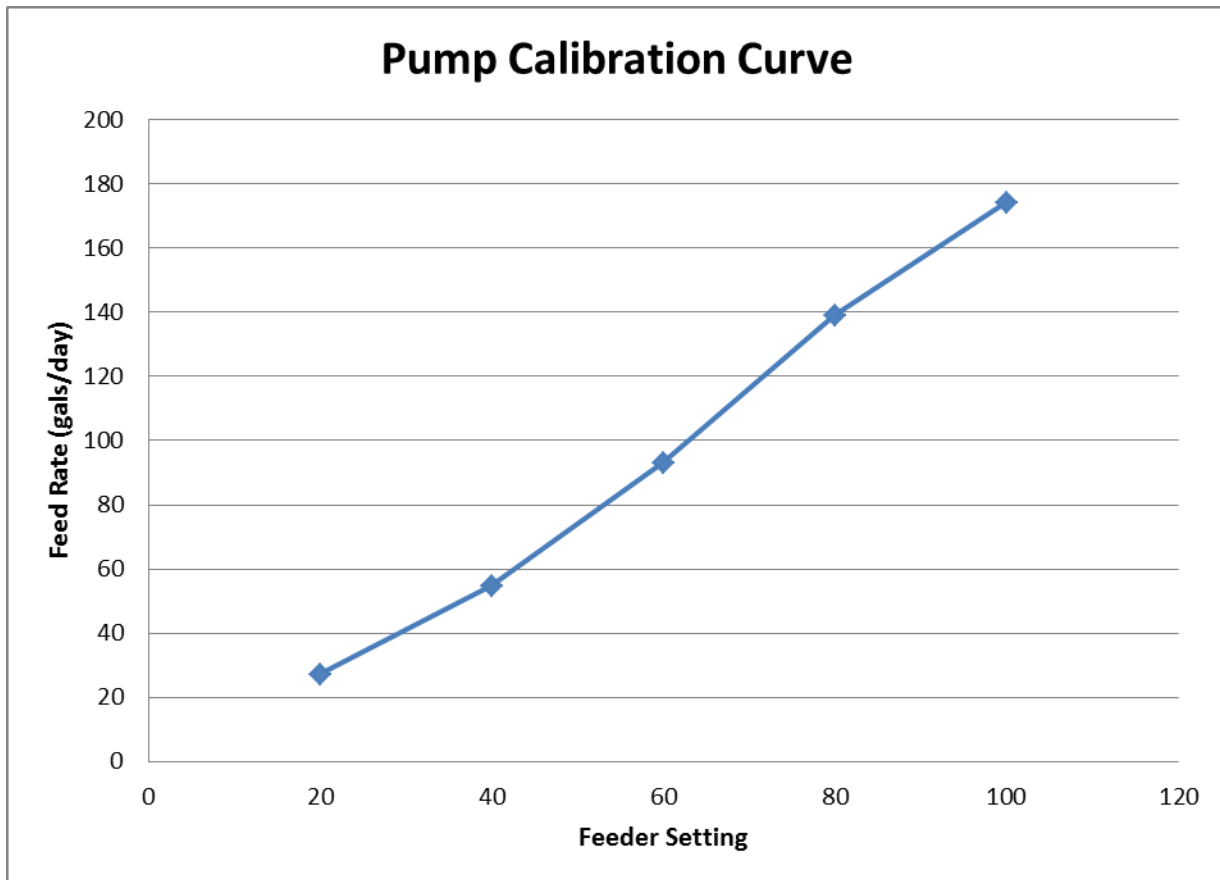

Figure 4.5 – Feeder Calibration Curve for Stroke 60%
*Display Slide 53 (Figure 4.5 Pump Calibration Curve) See notes below slide*
*Display Slide 54 (Figure 4.5 Pump Calibration Curve) See notes below slide*